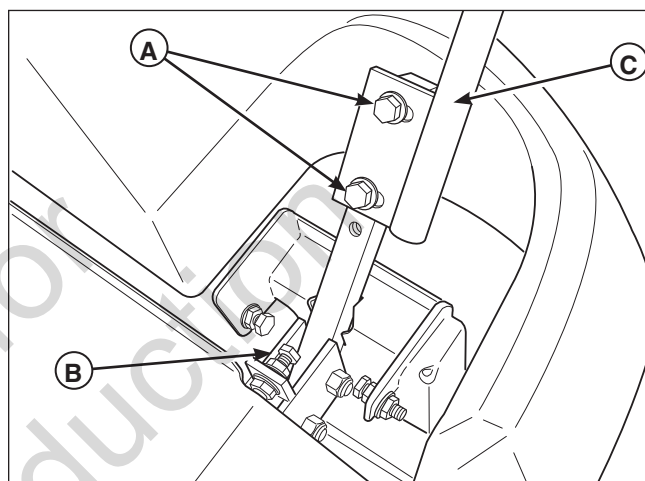

Figure 31. Control Lever Adjustment
Loosen the mount bolts (A, Figure 31) and pivot the lever(s) (C) to align with each other.
Loosen the jam nuts and adjust the placement bolt (B, Figure 31) in or out to properly adjust the lever end spacing.